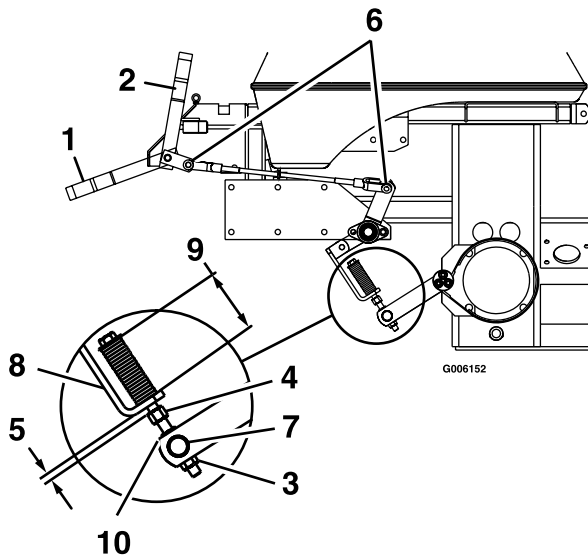

Figure 19
2. Measure the length of the spring. Measurement should be 2 13/16 inches (7.1 cm) between washers. (Figure 19).